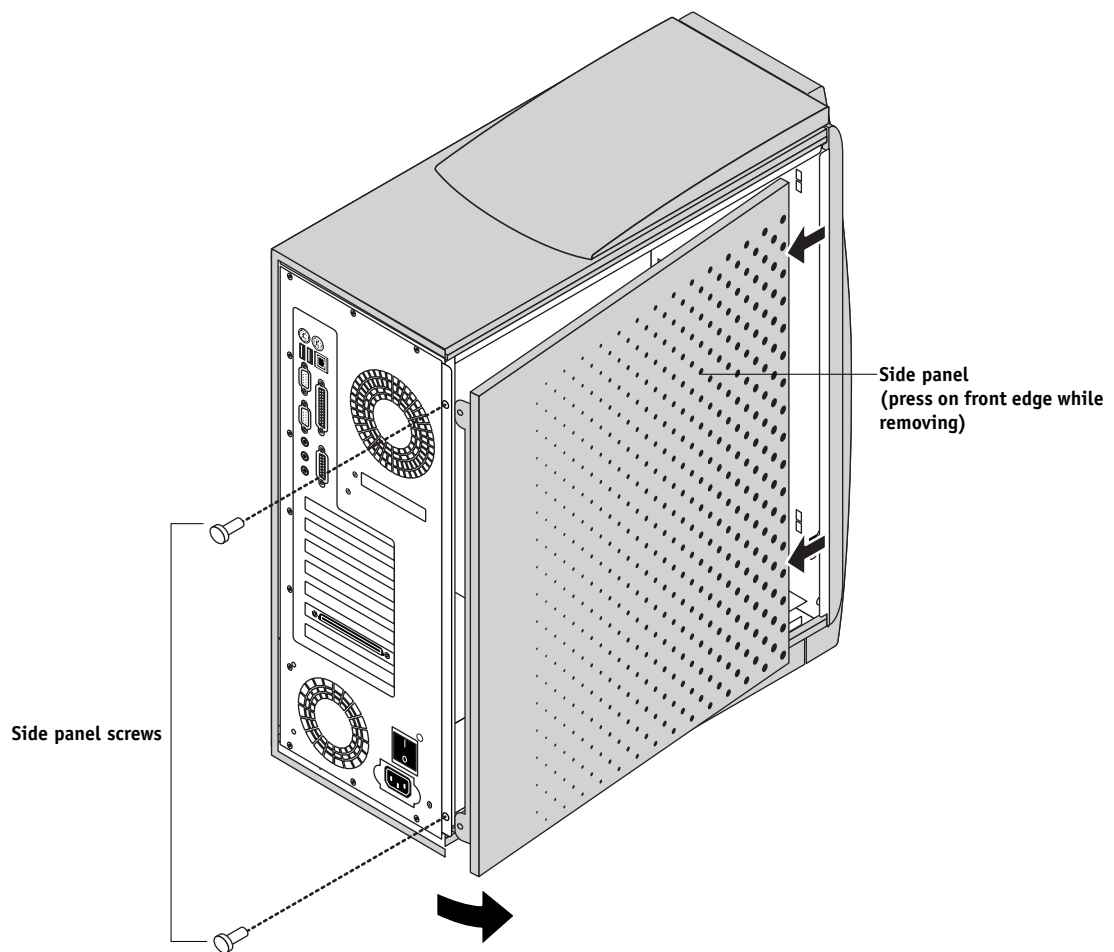

FIGURE 4-2 Removing the E-810 side panel
3. Lift off the side panel (see Figure 4-2).